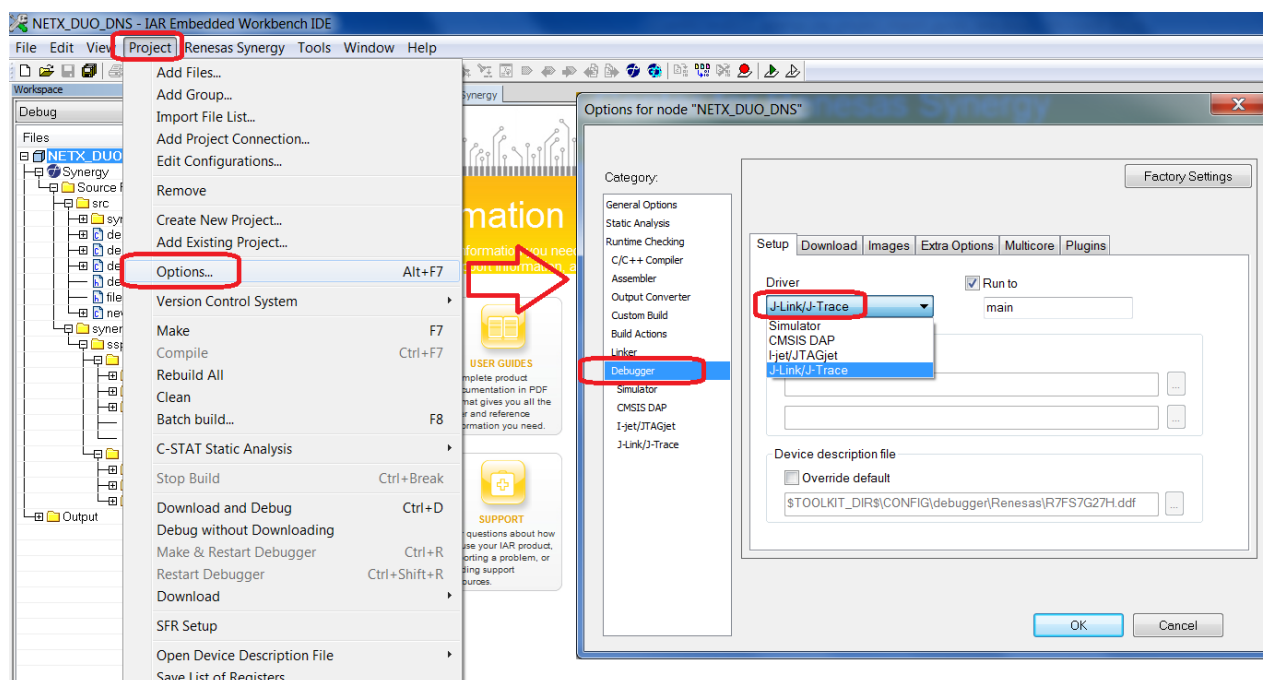

Figure 1.13 Debugger Setup 1
1. Verify the debug probe (Figure 1.13) by clicking **Project > Options > Debugger > Setup > Driver**.